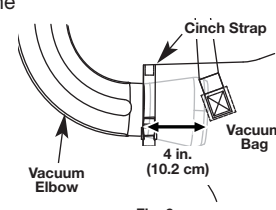

Fig. 9
1. Locate the small opening in the vacuum bag. Insert the flared end of the vacuum elbow approximately 4 in. inside the small opening. (Fig. 9)